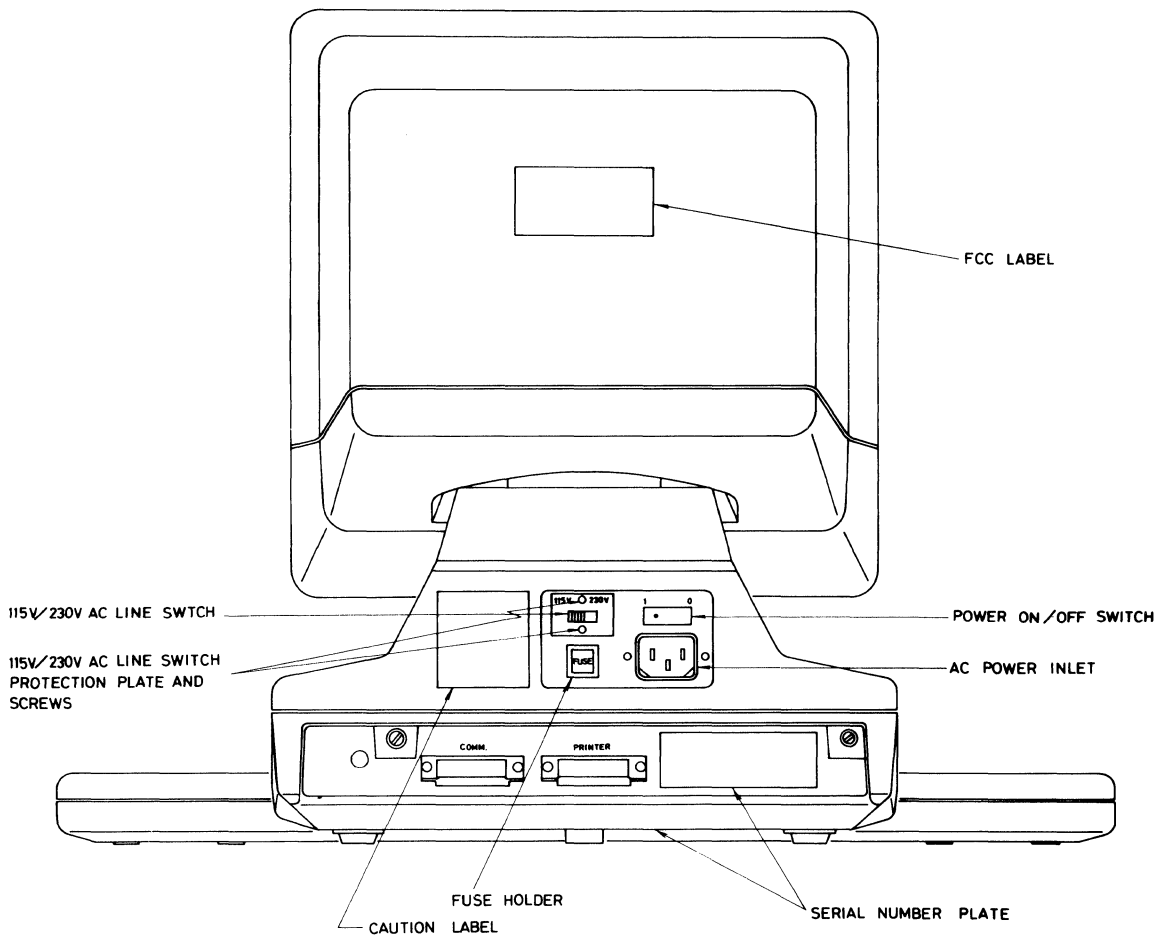

Figure 2-2. CIT-101e Connectors and Controls
2.6.2.2 AC Line Voltage Connection. Verify that the CIT-101e AC line switch setting is set to value of voltage supplied, refer to Figure 2-2. If the AC line switch is not set to the proper voltage, perform the following:
Apply power using the power ON/OFF switch located on the rear of the terminal as shown in Figure 2-2. The CIT-101e should immediately respond with a beep tone, a pause of about 3 seconds, and a second beep of equal length. If the second beep is of the same duration as the first and no message appears on the screen, your unit has successfully completed self-test and is ready for connection to a host computer and terminal configuration. Refer to Section III SET-UP Modes, for more information about configuring the CIT-101e for your computer.
2.6.5.1 Communication Ports. In the standard system configuration the CIT-101e is interfaced with the host computer via the communication I/O port according to EIA RS-232 or 20 mA current loop conventions. See Figure 2-2 for location of the communication and auxiliary connector. The male D connector labeled COMM, located at the rear of the CIT-101e is used for host computer communication. Table 2-1 provides the RS-232-C pin assignments for the COMM connector. Communication parameters, (eg: baud rates, parity, etc.), are selected via the SET-UP modes (refer to Section III).